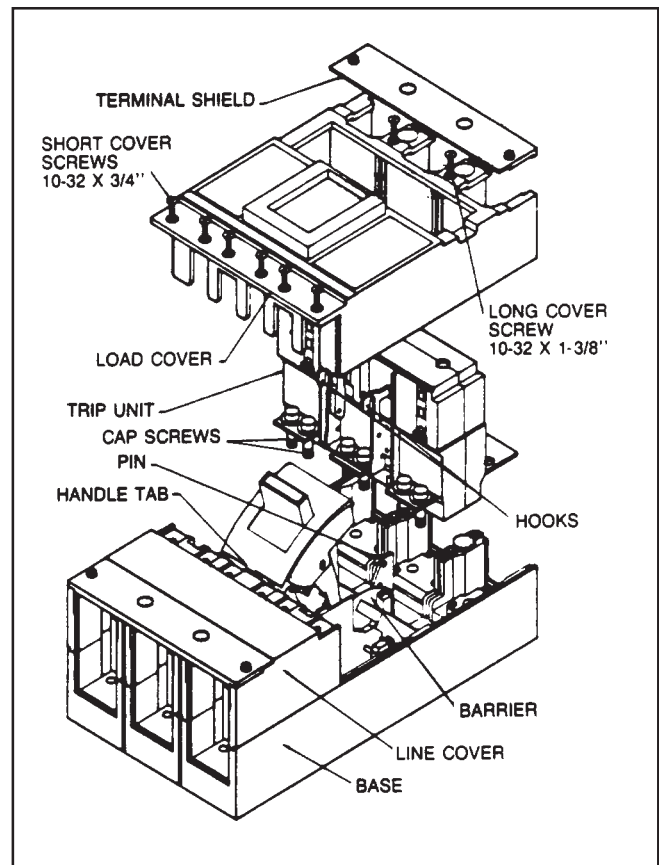

Fig. 2
3. Lower trip unit into place as shown in Figure 2. The two hooks on the trip unit must fit over pins on frame. Handle may be removed to ease assembly.